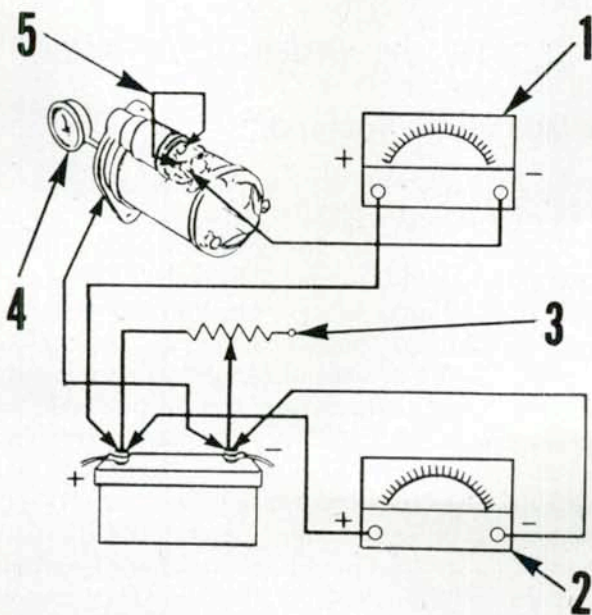

Fig. 154—Connect ammeter (1), voltmeter (2), variable load resistor (3) and jumper lead (5) as shown to check starting motor no-load current draw.
To check starting motor no-load current draw with starter removed from engine, proceed as follows: Secure starting motor in a vise and connect ammeter and voltmeter leads to starting motor and a fully charged battery as shown in Fig. 154. Connect a variable load resistor (3) to battery terminals. Connect a jumper lead (5) between battery and switch terminals on starter solenoid. Adjust variable load resistor to obtain 12 volts and hold a tachometer (4) on end of armature shaft to measure rpm. Armature speed should be 5500-8000 rpm and current draw should not exceed 120 amperes.